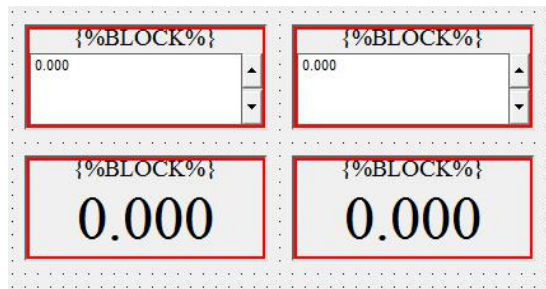

Figure 11: Numerical input and Display windows
- b. Click on **Numeric Input** under **Standard Instruments** section and draw two numerical inputs. Then, click on **Display** under **Standard Instruments** and draw two display windows in the layout window. Note that you must click the desired icon in the Instrument Selector before drawing each box. This will allow you to input a number (in this case, frequency and amplitude) and view the entered values in the display windows. The blocks may not look exactly like the ones of Fig. 11 and may include additional text such as “/ {%VARIABLE%}”.